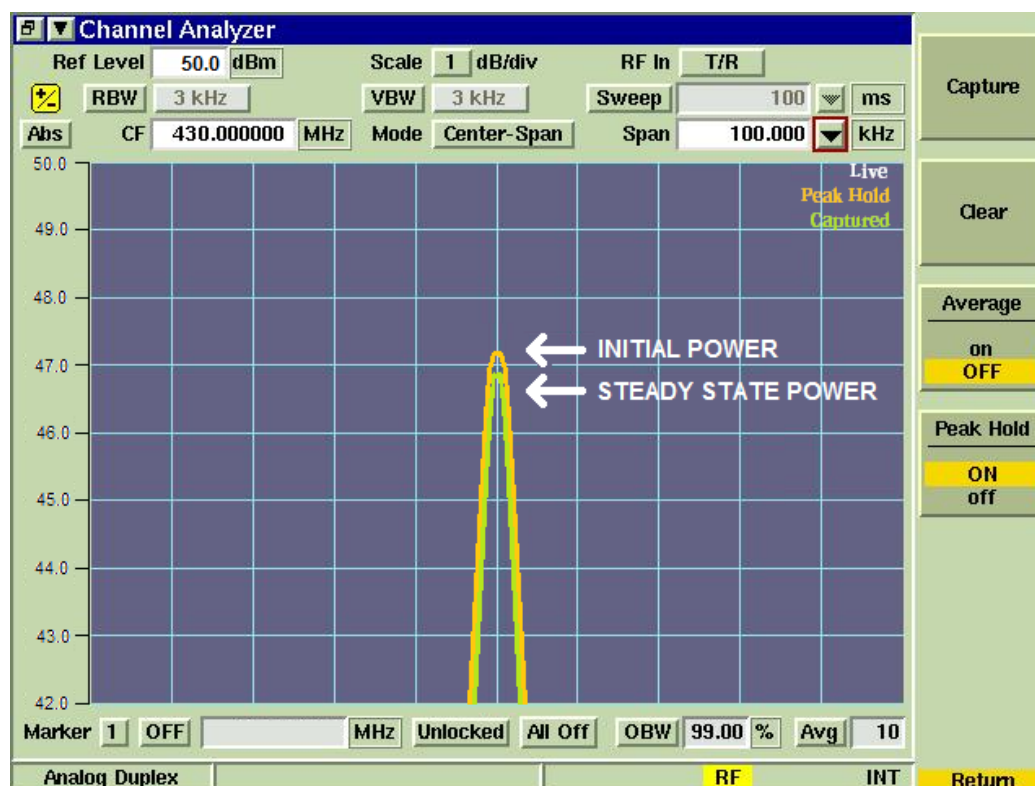

Figure 11-2: Measuring and Aligning APC Input and Output Power with Aeroflex 3920
6. Measure the steady-state transmit power. Figure 11-2 shows the Channel Analyzer function of the Aeroflex 3920.
9. Rekey the radio and measure the initial transmit power. Typically, this measurement is higher than this channel's steady-state transmit power. See Figure 11-2 for an example display.